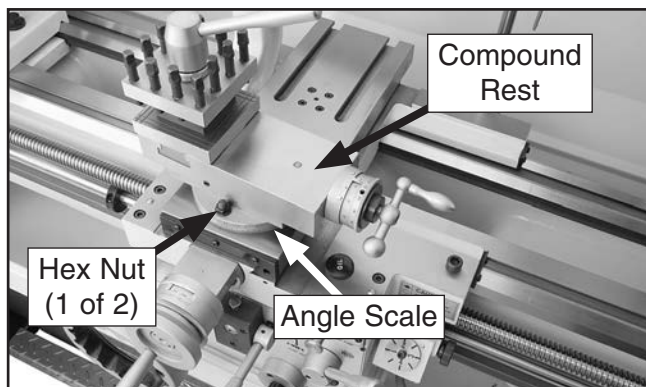

Figure 61. Compound rest.
1. Loosen the two hex nuts at the base of the compound rest (1 of 2 shown in **Figure 61**).